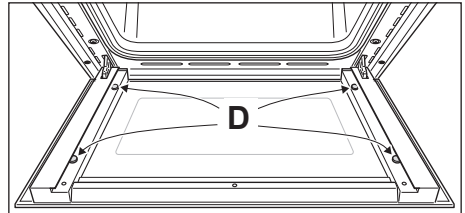

Fig. 6.23
**IMPORTANT:** It is advisable, while removing the glass, to keep pressed in position the four rubber pads "D" (fig. 6.23), by a finger, to avoid breakage or slippage of the rubber pads themselves.
- Check that the four rubber pads are in place ("D" in fig. 6.23).